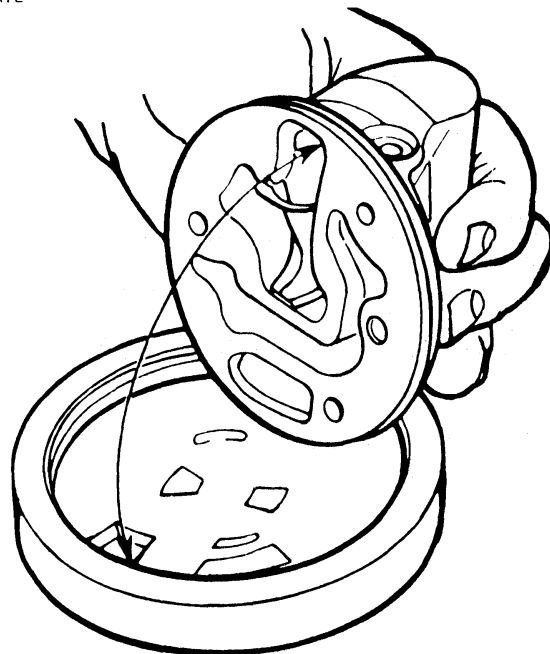

FIG. 26 Installing Valve Cover
15. Insert this valve cover over the dowel pins. Be sure the outlet fitting hole in the valve cover is directly in line with the square mounting boss of the pump housing plate (Fig. 26).